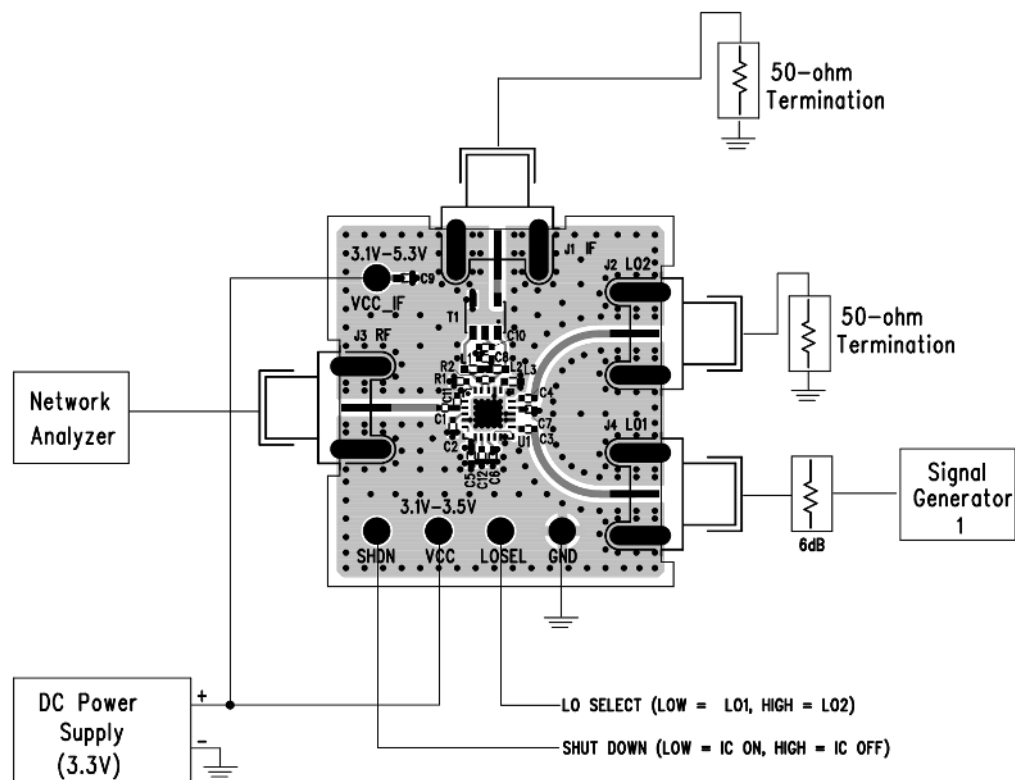
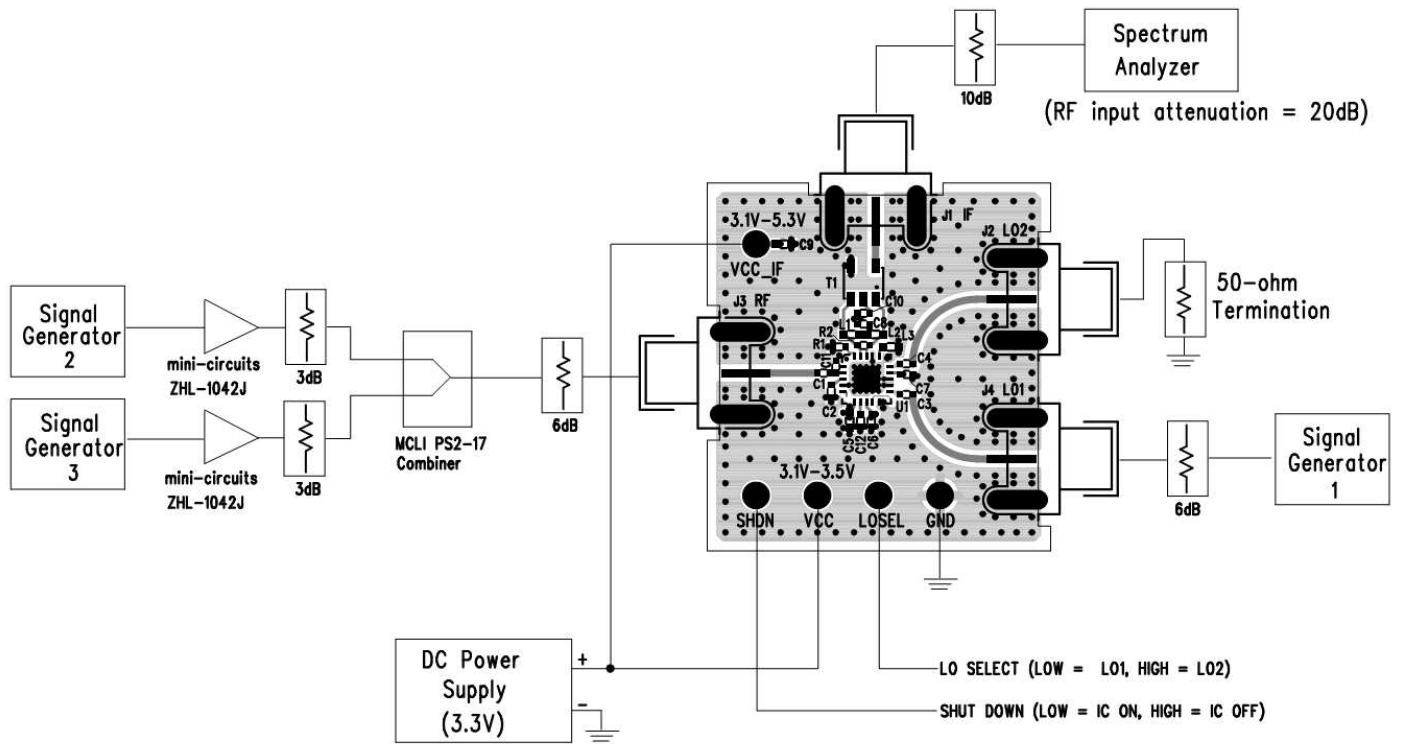
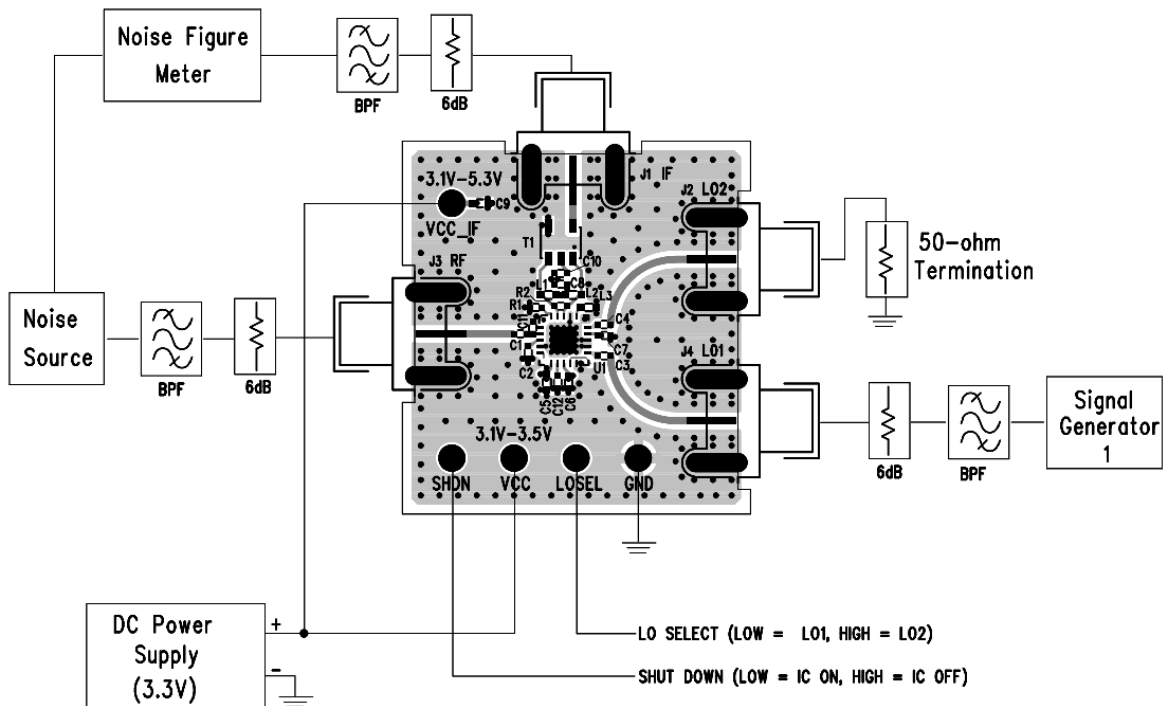

Figure 5. Proper Equipment Setup for Return Loss Measurements
Figure 6. Proper Equipment Setup for RF Performance Measurements
Figure 7. Proper Equipment Setup for Noise Figure Measurement
The LTC5541 is a high dynamic range downconverting mixer IC with very high input 3rd order intercept. Accuracy of its performance measurement is highly dependent on equipment setup and measurement technique. The recommended measurement setups are presented in Figure 5, Figure 6, and Figure 7. The following precautions should be observed:
The LTC5541 consists of a high linearity passive double-balanced mixer core and IF buffer amplifier. Due to the bi-directional nature of all passive mixers, LO \pm IF mixing product is always present at the RF input, typically at a level of 12dB below the RF input signal. If the LO \pm IF "Pseudo-Image Spur" is not properly terminated, it may interfere with the source signals, and can degrade the measured linearity and noise figure significantly. To avoid interference from the LO \pm IF "Pseudo-Image Spur", terminate the RF input port with an isolator, diplexer, or attenuator. In the recommended measurement setups presented in Figure 6 and Figure 7, the 6dB attenuator pad at the demonstration circuit's RF input serves this purpose.
Demonstration circuit 1431A-B is easy to set up to evaluate the performance of the LTC5541. Refer to Figure 5, Figure 6, and Figure 7 for proper equipment connections and follow the procedure below:
3. Connect all test equipment as shown in Figure 5 with the signal generator and the DC power supply turned off.
1. Connect all test equipment as shown in Figure 6 with the signal generators and the DC power supply turned off.
2. Connect all test equipment as shown in Figure 7 with the signal generator and the DC power supply turned off.